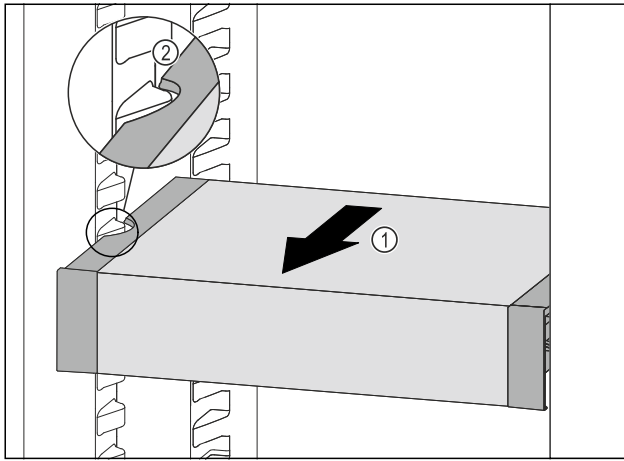

Fig. 126
- Pull VarioSafe forwards Fig. 126 (1) until the recesses in the side of the VarioSafe are at the level of the support rib in the fridge section. Fig. 126 (2)